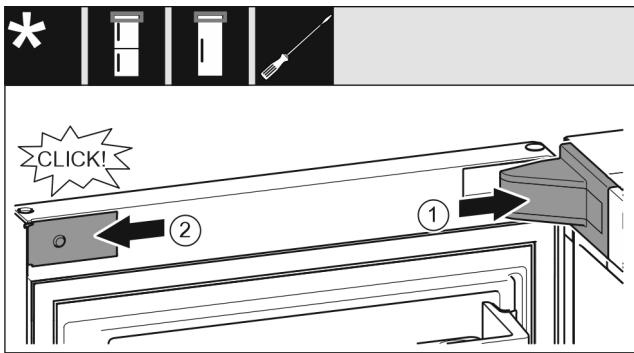

Fig. 20
- ▶ Put the swap bearing block cover Fig. 20 (1) on and engage, push apart carefully if required.
- ▶ Place the trim Fig. 20 (2) on the side and engage.